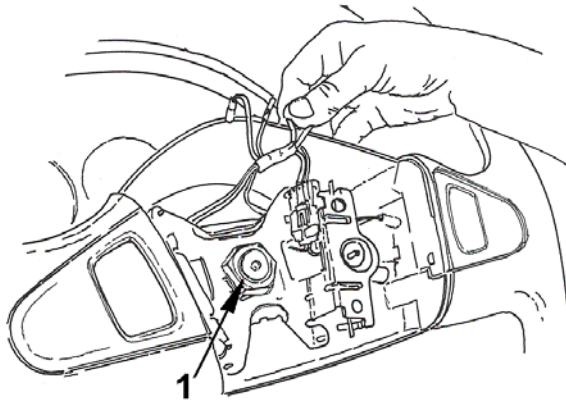

Figure 70 Steering Wheel Retaining Nut
1. Loosen and remove the retaining nut from the shaft spindle (Figure 70, Item 1).